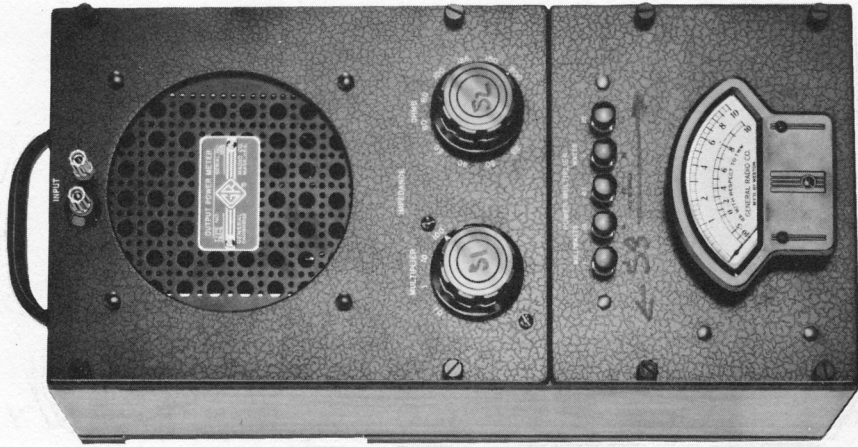

Figure 1.
1.1 PURPOSE. The Type 783-A Output-Power Meter (Figure 1) gives a direct indication of the power output of audio-frequency circuits, and can be used to test amplifiers, transformers, oscillators, filters, and similar networks. Often used to simulate loud-speaker or other load impedances in high-power audio systems, the Output-Power Meter will handle power outputs up to 100 watts, yet is sensitive enough to measure directly the power output of a phonograph pickup.